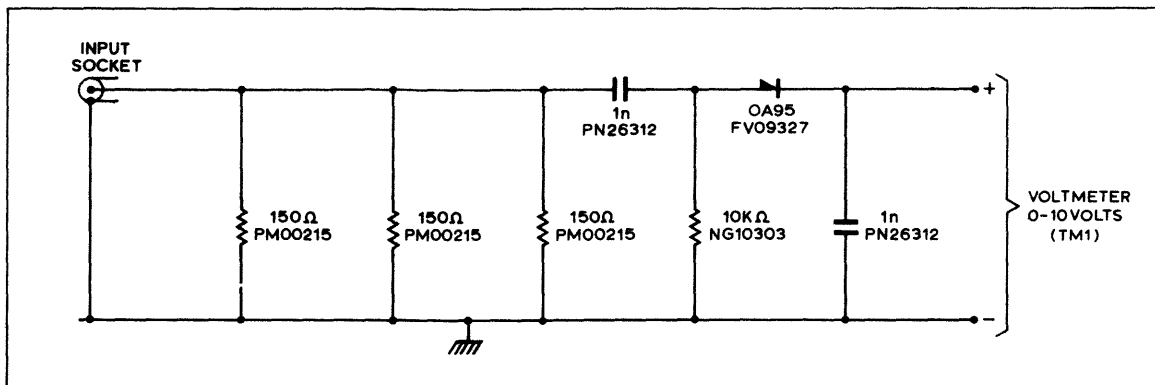

Fig. 4A R.F. Power Output Indicator
6. R.F. power output meter reading up to 1 watt full scale. (See Fig.4a)